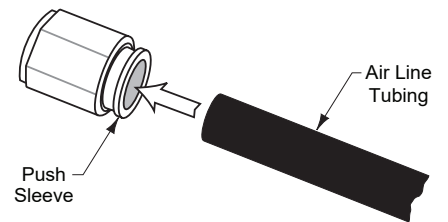

**Fig. 34**
- A. Attach retainer brackets for the rear recoil hose with M8 x 30 Lg. hex cap screw, flat washer, lock washer and nut, Fig. 34.
- B. Insert retainer cable through coils of recoil hose, Fig. 34. Run a 1/4"-20NC hex nut down onto each end of retainer cable. Insert each end of cable into retainer brackets. Secure each cable end with another 1/4"-20NC hex nut. Tighten jam nuts, Fig. 34.
- A. Insert retainer cable through coils of recoil hose, Fig. 34. Connect one end of recoil hose to coupling welded on rolling jack, Fig. 37 and 38.